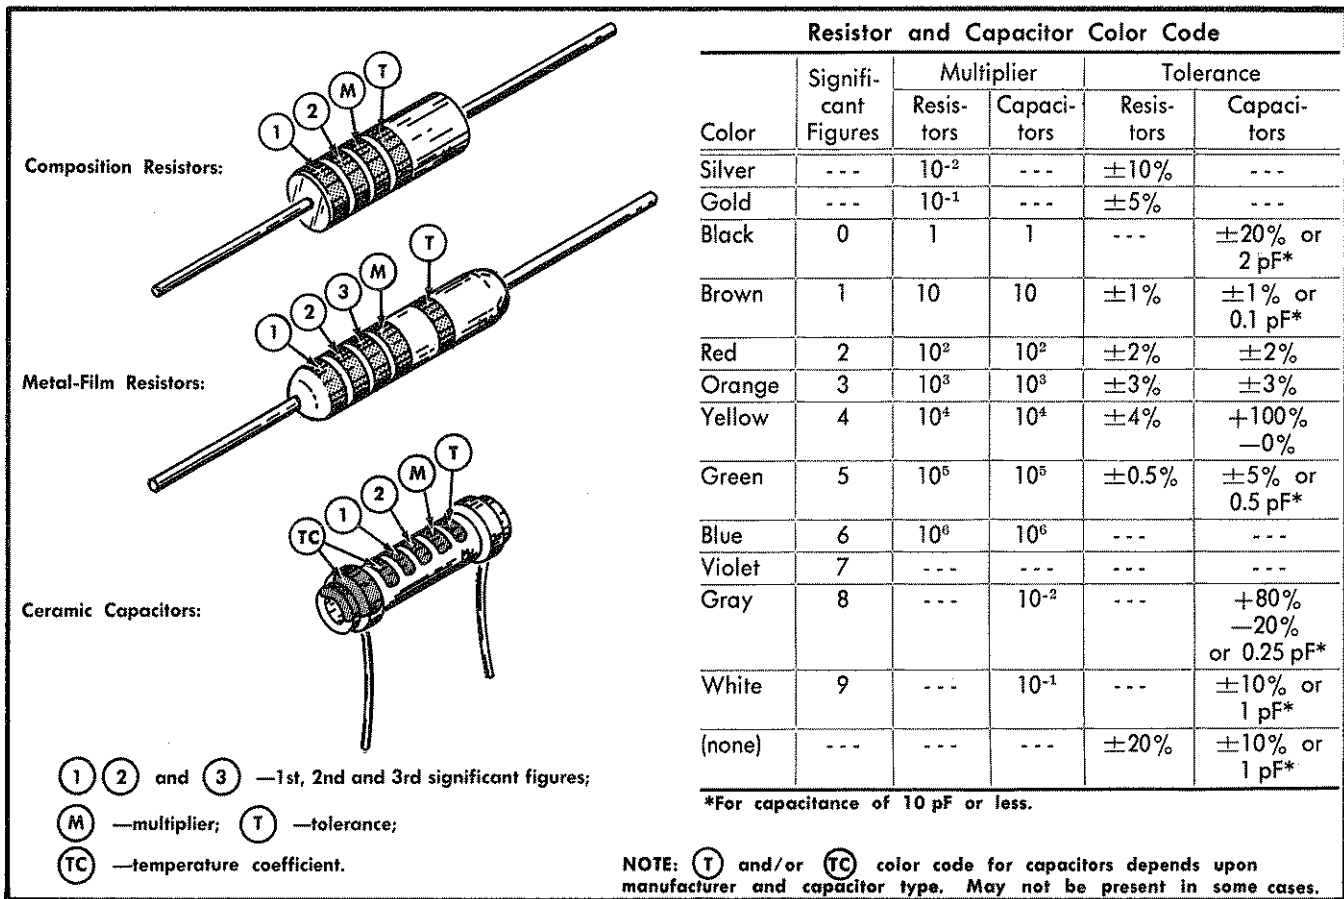

Fig. 4-1. Color-code for resistors and ceramic capacitors.
**Resistor Color-Code.** In addition to the brown composition resistors, some metal-film resistors and some wire-wound resistors are used in the 7B71. The resistance values of wire-wound resistors are printed on the body of the component. The resistance values of composition resistors and metal-film resistors are color-coded on the components (some metal-film resistors may have the value printed on the body) with EIA color code. The color code is read starting with the stripe nearest the end of the resistor. Composition resistors have four stripes which consist of two significant figures, a multiplier and a tolerance value (see Fig. 4-1). Metal-film resistors have five stripes consisting of three significant figures, a multiplier and a tolerance value.
**Capacitor Marking.** The capacitance values of common disc capacitors and small electrolytics are marked in microfarads on the side of the component body. The white ceramic capacitors used in the 7B71 are color coded in picofarads using a modified EIA code (see Fig. 4-1).